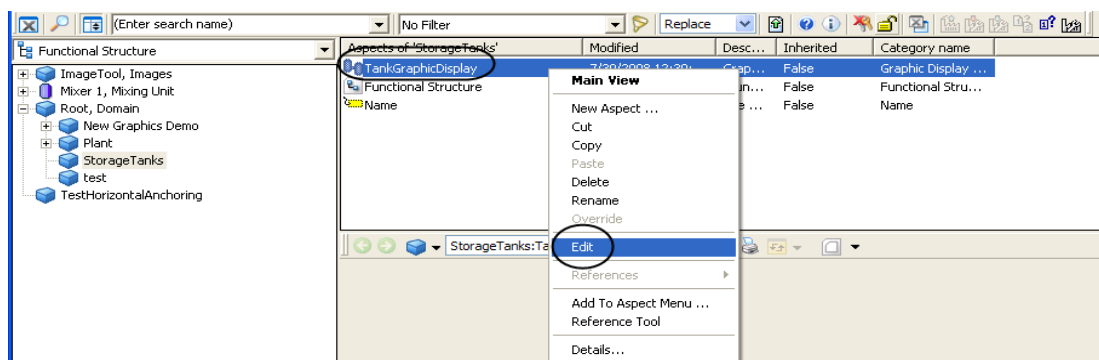

Figure 151. Launching the Graphics Builder for TankGraphicDisplay
4. To launch the Graphics Builder, right-click on the newly created aspect and select **Edit** from the context menu as shown in Figure 151. The Process Graphics Builder opens.